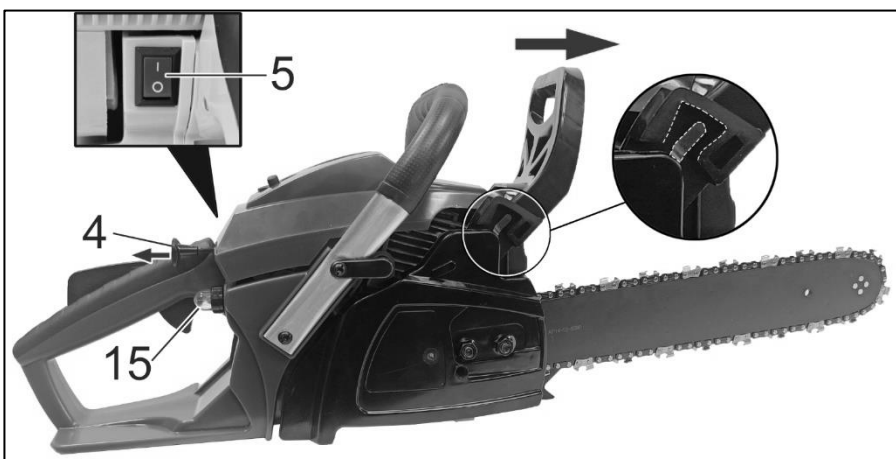

Fig. 18
Before starting the engine, make sure the chain brake is activated by pushing the chain brake lever forward (Fig.18).
2) Set the on-off switch to "I" position (ON position) (Fig.18 part.5).
3) Pull the choke lever out to the closed position. (Fig.18 part.4)
4) Squeeze the fuel pump until the bubble is completely filled with fuel. (Fig.18 part.15)